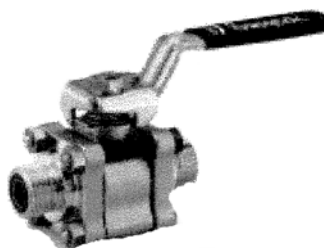

Figure 6-5. 11/2-Inch Isolation Ball Valve (SS-67TF24)
- 11/2-Inch Isolation Ball Valve (SS-67TF24) (see Figure 6-5). The following 11/2-inch valves are manufactured by Whitey Co. and distributed by Swagelok. These valves are generally hull component isolation valves. These are Swagelok Series 60 valves and are repaired or replaced in accordance with the procedures listed in sections 6-6.2.1 through 6-6.2.3.